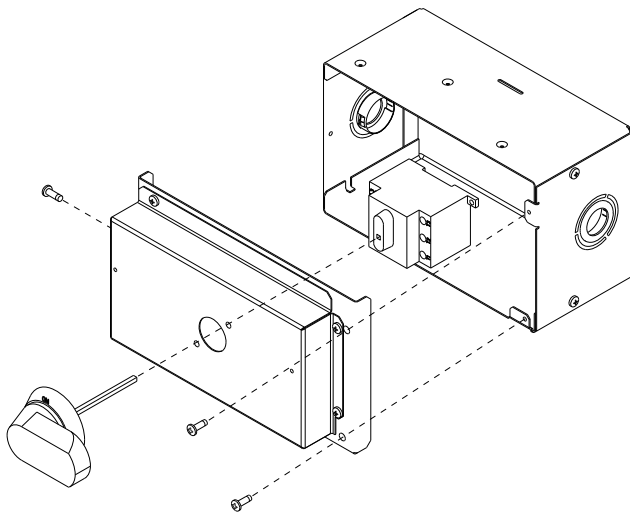

Fig. 20 — NFD Handle and Shaft Assembly
2. Remove (3) cap head screws that secure the NFD enclosure front cover — (2) on the face of the cover and (1) on the left side cover. See Fig. 20.
5. Insert the shaft with the cross pin on the top of the shaft in the horizontal position. See Fig. 20.
- Secure the handle to the painted cover with (2) screws and lock washers supplied.
- Engaging the shaft into the handle socket, re-install (3) hex screws on the NFD enclosure.